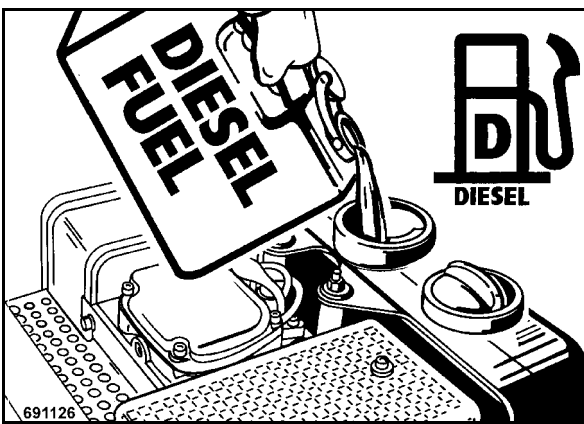

Fig. 48
- If necessary fill in fuel through a funnel with filter screen (Fig. 48).